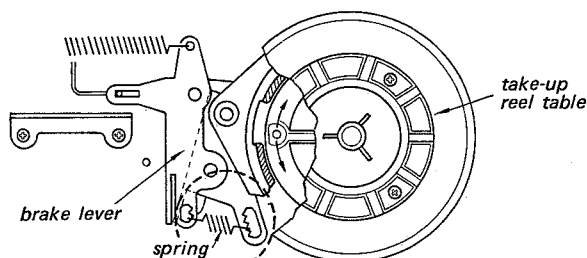

Fig. 3-1-7. Brake torque adjustment
2. If necessary, change the hooking position of the spring for the specified brake torque. See Fig. 3-1-7.